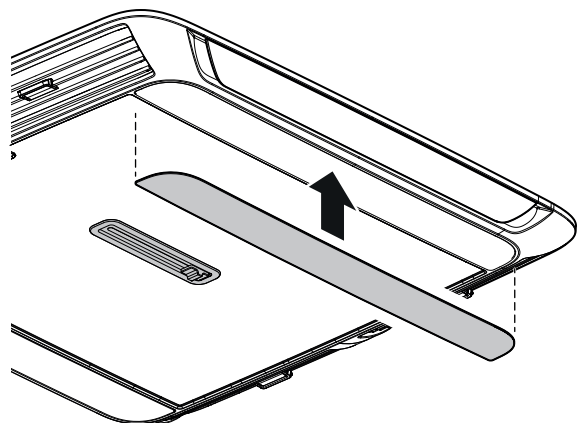

Fig. 27
- Attach both panels to the bottom of the air distributor (Fig. 27).